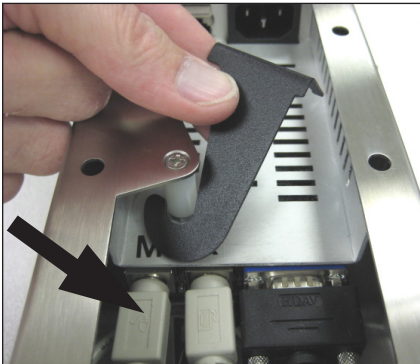

FIGURE 5
- Connect PS2 keyboard cables to KVM Extender as shown in Figure 5.
- Install retention bracket by first hooking bracket around post as shown in Figure 5.